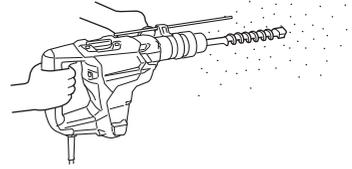

Fig. 3
1. How to drill holes (**Fig. 3**)